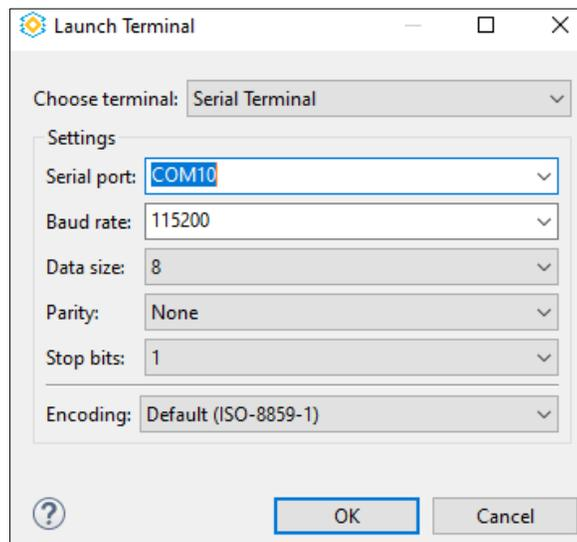

Figure 5.5. Launch Terminal Dialog 3
7. Choose the **Serial Terminal** and configure the **Serial port** with **Baud rate** 115200 (Figure 5.5).